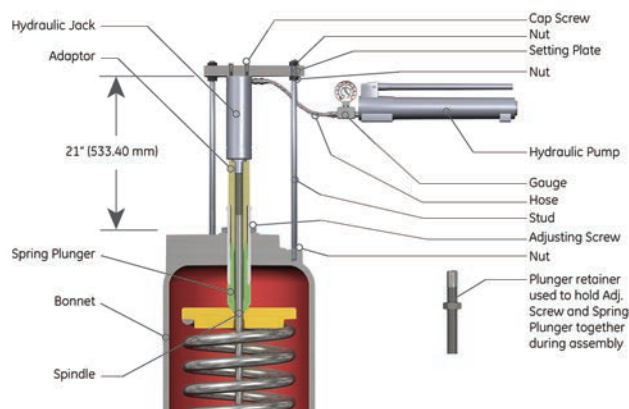

Figure 13: Setting Device for V and W Orifice
- Using a depth micrometer or a dial caliper, measure the distance from the top of the spindle (15) to the top of the adjusting screw (19). This allows the adjusting screw to be readjusted close to the proper spring compression without excessive testing.
- Loosen the adjusting screw locknut (20).
- Remove the adjusting screw from the bonnet (11). Use pliers to prevent the spindle from turning when removing the adjusting screw.
- Attach the setting device (see Figure 13).